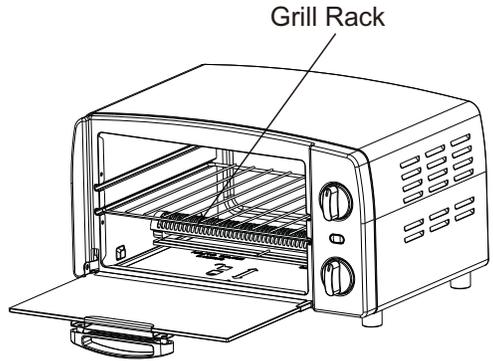

fig.5.
1. Place the Grill Rack in position that will accommodate the height of the food to be cooked. See fig.5.